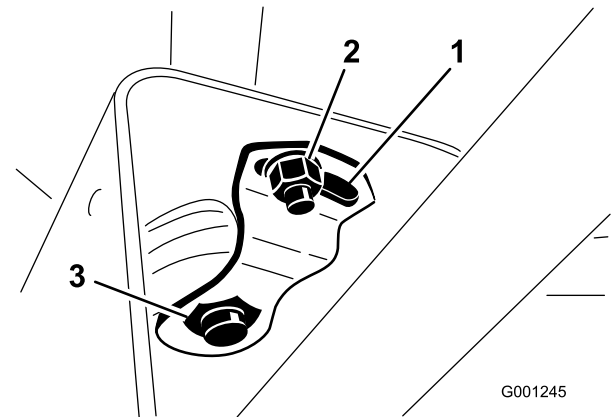

Figure 69
3. Loosen the small nut, rotate the pivot bracket until it tightens the large nut below (Figure 69).